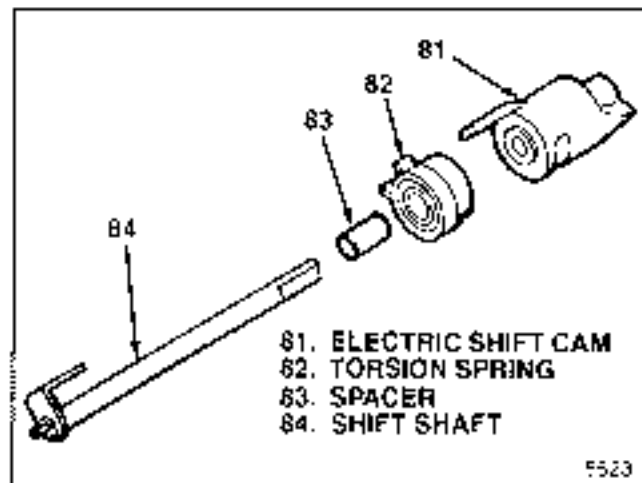
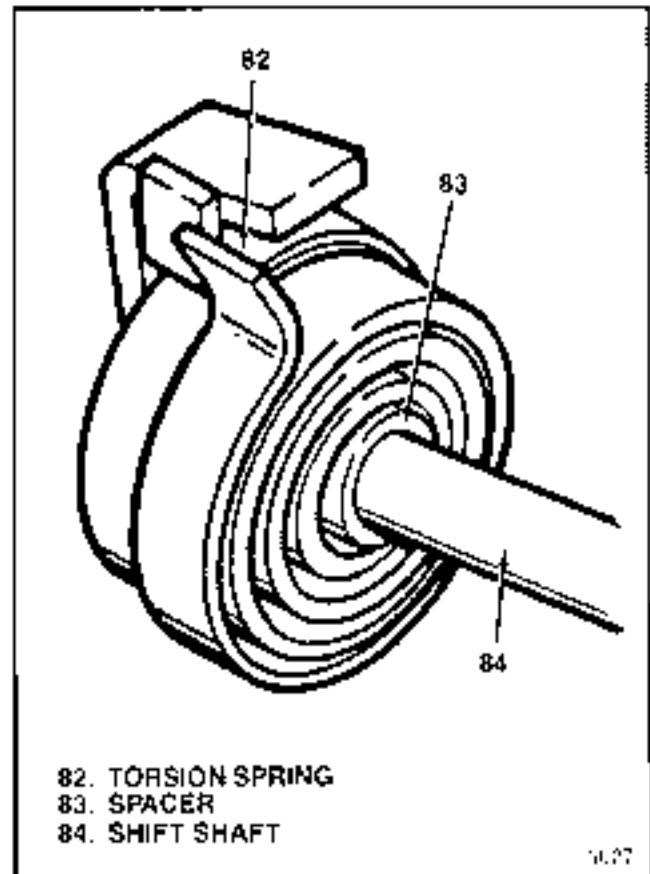

Figure 5-6. Electric Shift Cam Parts
Figure 5-7. Installing First Spring End
**5-8. ASSEMBLY OF SHIFT CAM PARTS (ELECTRIC SHIFT TRANSFER CASE ONLY):** On electric shift units, assemble the following (see figure 5-6):
a. Insert spacer (83) in torsion spring (82) (D) and install over free end of shift shaft (84).
b. Slide torsion spring (82) and spacer (83) on shift shaft (84) up to drive tang and position first spring end to left (viewed from free end of shaft of drive tang (see figure 5-7)).